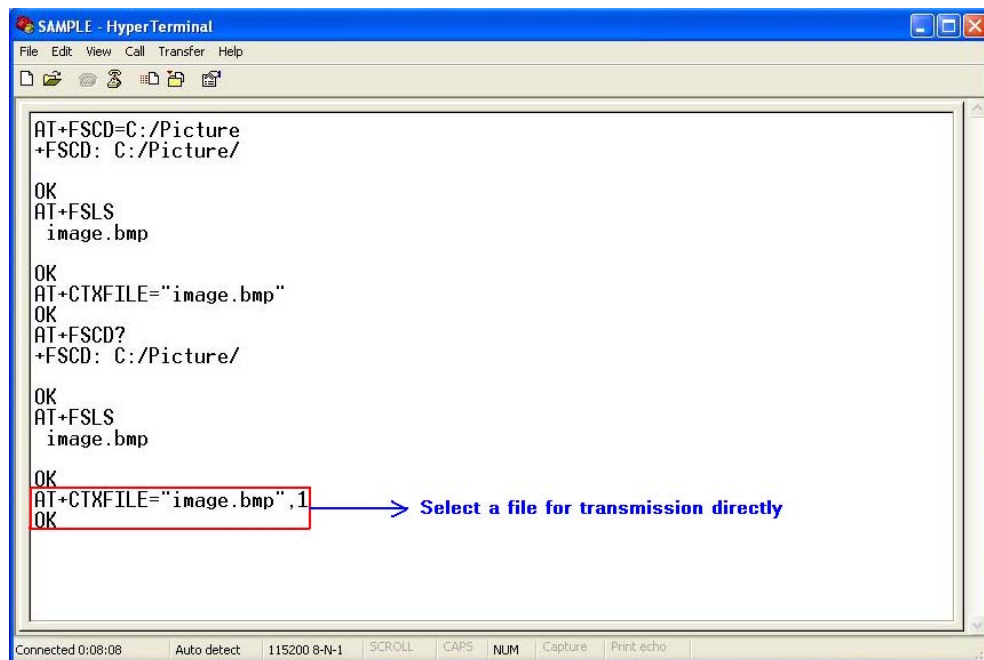

Figure 17-2 Select file directly for transmission
②. Select the file directly with subparameter `<dir_type>` of `AT+CTXFILE` is not 0 and not omitted; this method is a shortcut method for limited directories. [Figure 17-2]